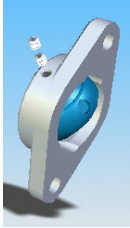

Fig 8-1
NOTE Remove two (2) setscrews from an EDT housing in order to replace the Poly-Round® bearing (see Fig 8-1).